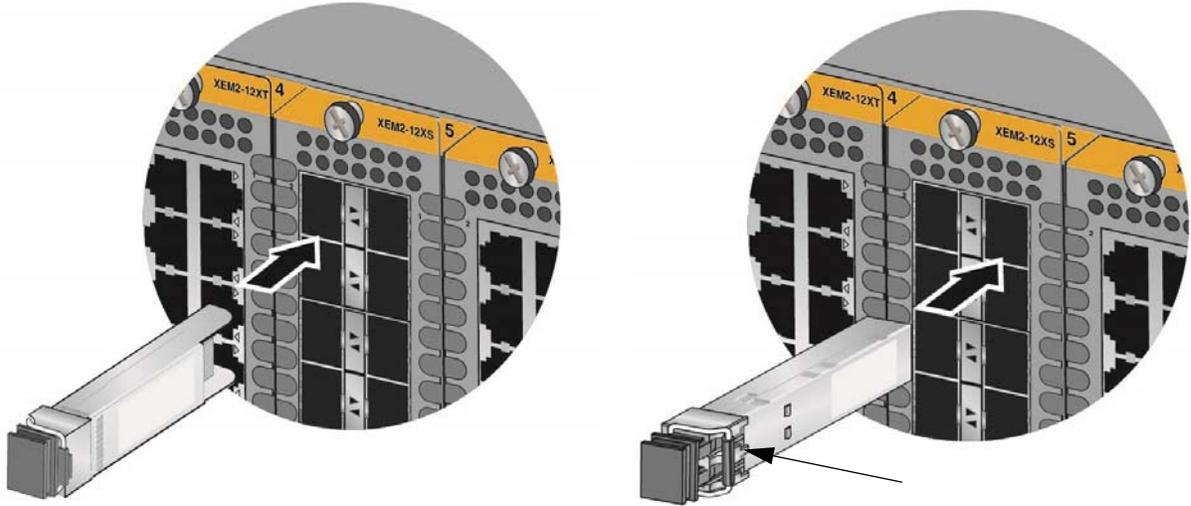

Figure 103. Installing an SFP Transceiver in the XEM2-12XS Line Card
- XEM2-8XSTm or XEM2-12XS Line Card - To install a transceiver in an odd numbered port, position its handle on the right. To install a transceiver in an even numbered port, position its handle on the left. Refer to Figure 103 on page 181.